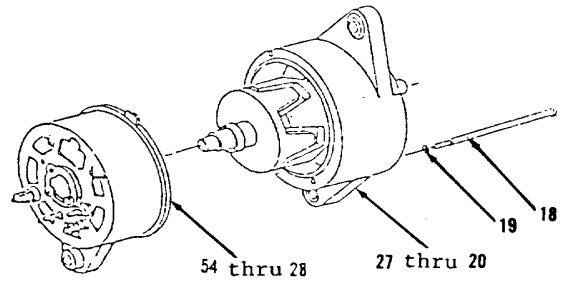
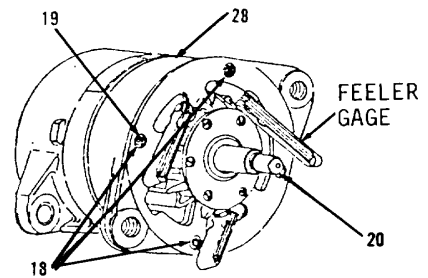
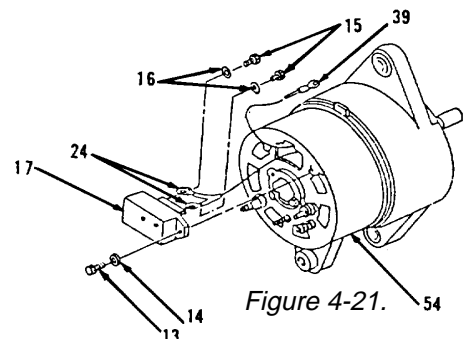

Figure 4-22.
Figure 4-33.
Figure 4-21.
21. Install items 27 thru 20 as an assembly on items 54 thru 28 as an assembly (Figure 4-22) and align matchmarks made earlier.
22. Install four washers (19) and screws (18) loosely.
23. Align stator (28) and rotor (20, Figure 4-33). Position three 0.001 inch feeler gages.
24. Tighten four screws (18) to 3 to 4 ft-lb torque. Remove three feeler gages.
25. Position one of two field coil (24) wire assemblies on regulator (17, Figure 4-21) terminal.
26. Position remaining field coil (24) wire assembly and diode assembly (39) wire assembly on other regulator (17) terminal.
27. Install two lockwashers (16) and screws (15).
28. Position regulator (17) on rear of frame (54).
29. Install two lockwashers (14) and screws (13).